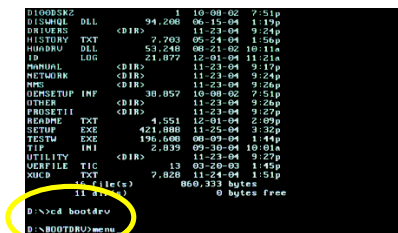

Figure 15
Step 1: Insert the prepared startup disk and motherboard driver CD-ROM in your system. Boot from the startup disk. Once at the A:\> prompt, change to the CD-ROM drive (example: D:\>). At the D:\> prompt, type the following two commands. Press ENTER after each command (Figure 15):